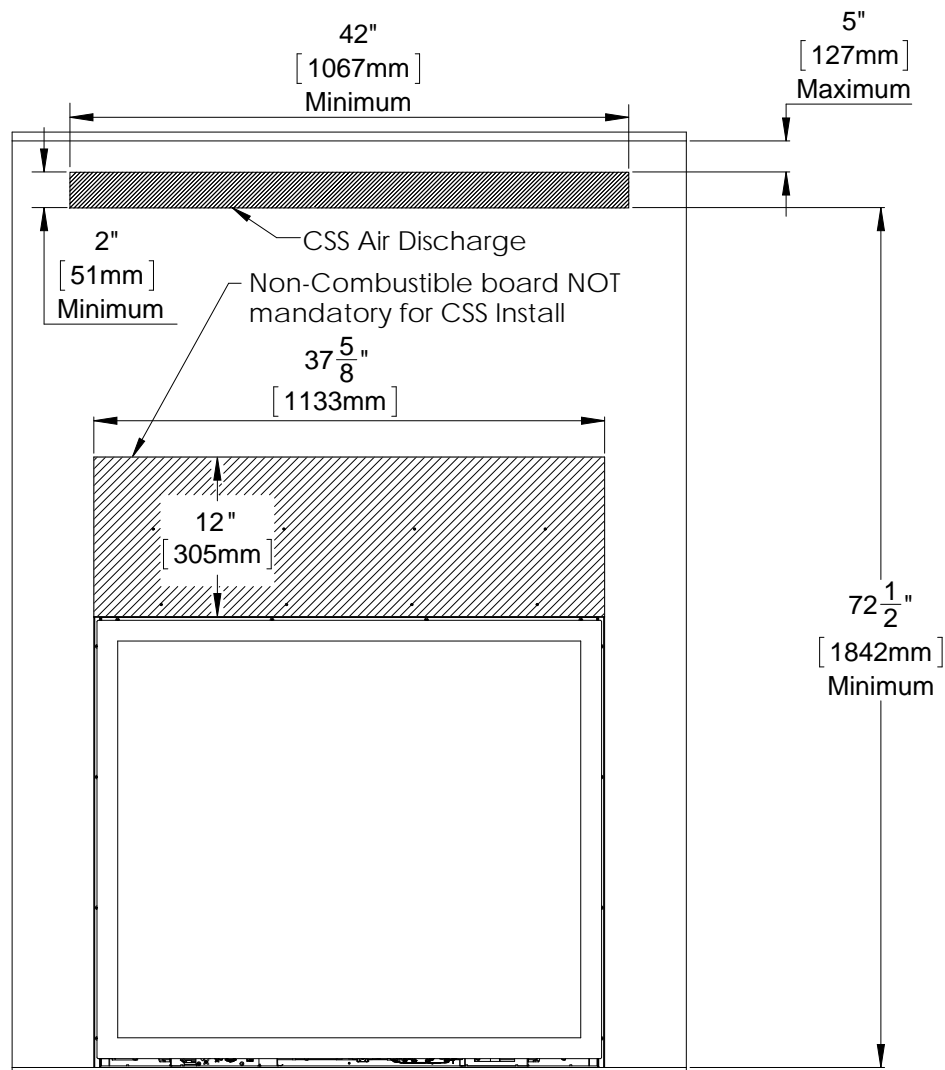

Figure 53: Typical Facing Layout
- The fireplace must be protected by an overhang with a depth that is at least equal to half of its height from the base of the fireplace, as shown in Figure 53.